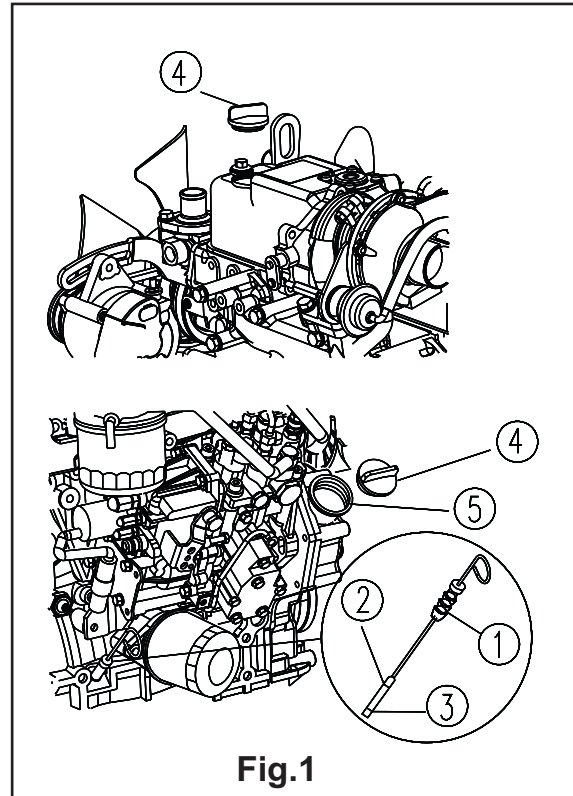

Fig.1
- 2) Take out the oil gauge (①in fig.1),and wiped by a clean fabric.
- 4) Take out the oil gauge again and check the oil level. The level of the oil should lie in the value between the highest (H) and the lowest (L).
- 8) Fill the oil from the oil filler (④ in fig. 1) as the regulated quantity.
- 11) Install the oil cover (④ in fig. 1).
- 8) Fill the engine oil (⑤ in fig. 1) until the oil level arrived at the value between the highest (H) and the lowest (L) on the oil gauge (① in fig. 3)
- 9) Install the filter cover (④ in fig. 1), if there are oil flow out, please clean immediately.